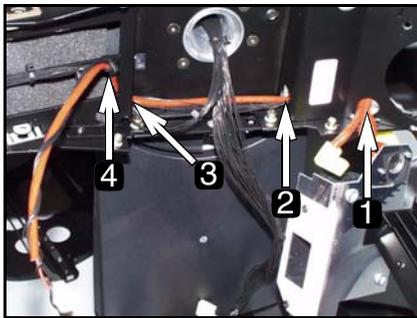

Fig. 38 Right fan cable path
- 8 Lead the fan cable out through hole 1, in through hole 2, under the wire bundle, and out through hole 3 as shown in Fig. 38.
- 11 Pull slack in the fan cable towards the front. Gather the fan cable together with the cables labeled '42' and '23' and tie at point 4 in Fig. 38 Wrap the black wires around the fan cable a few times to hold them together. Replace any other cable ties that you removed.